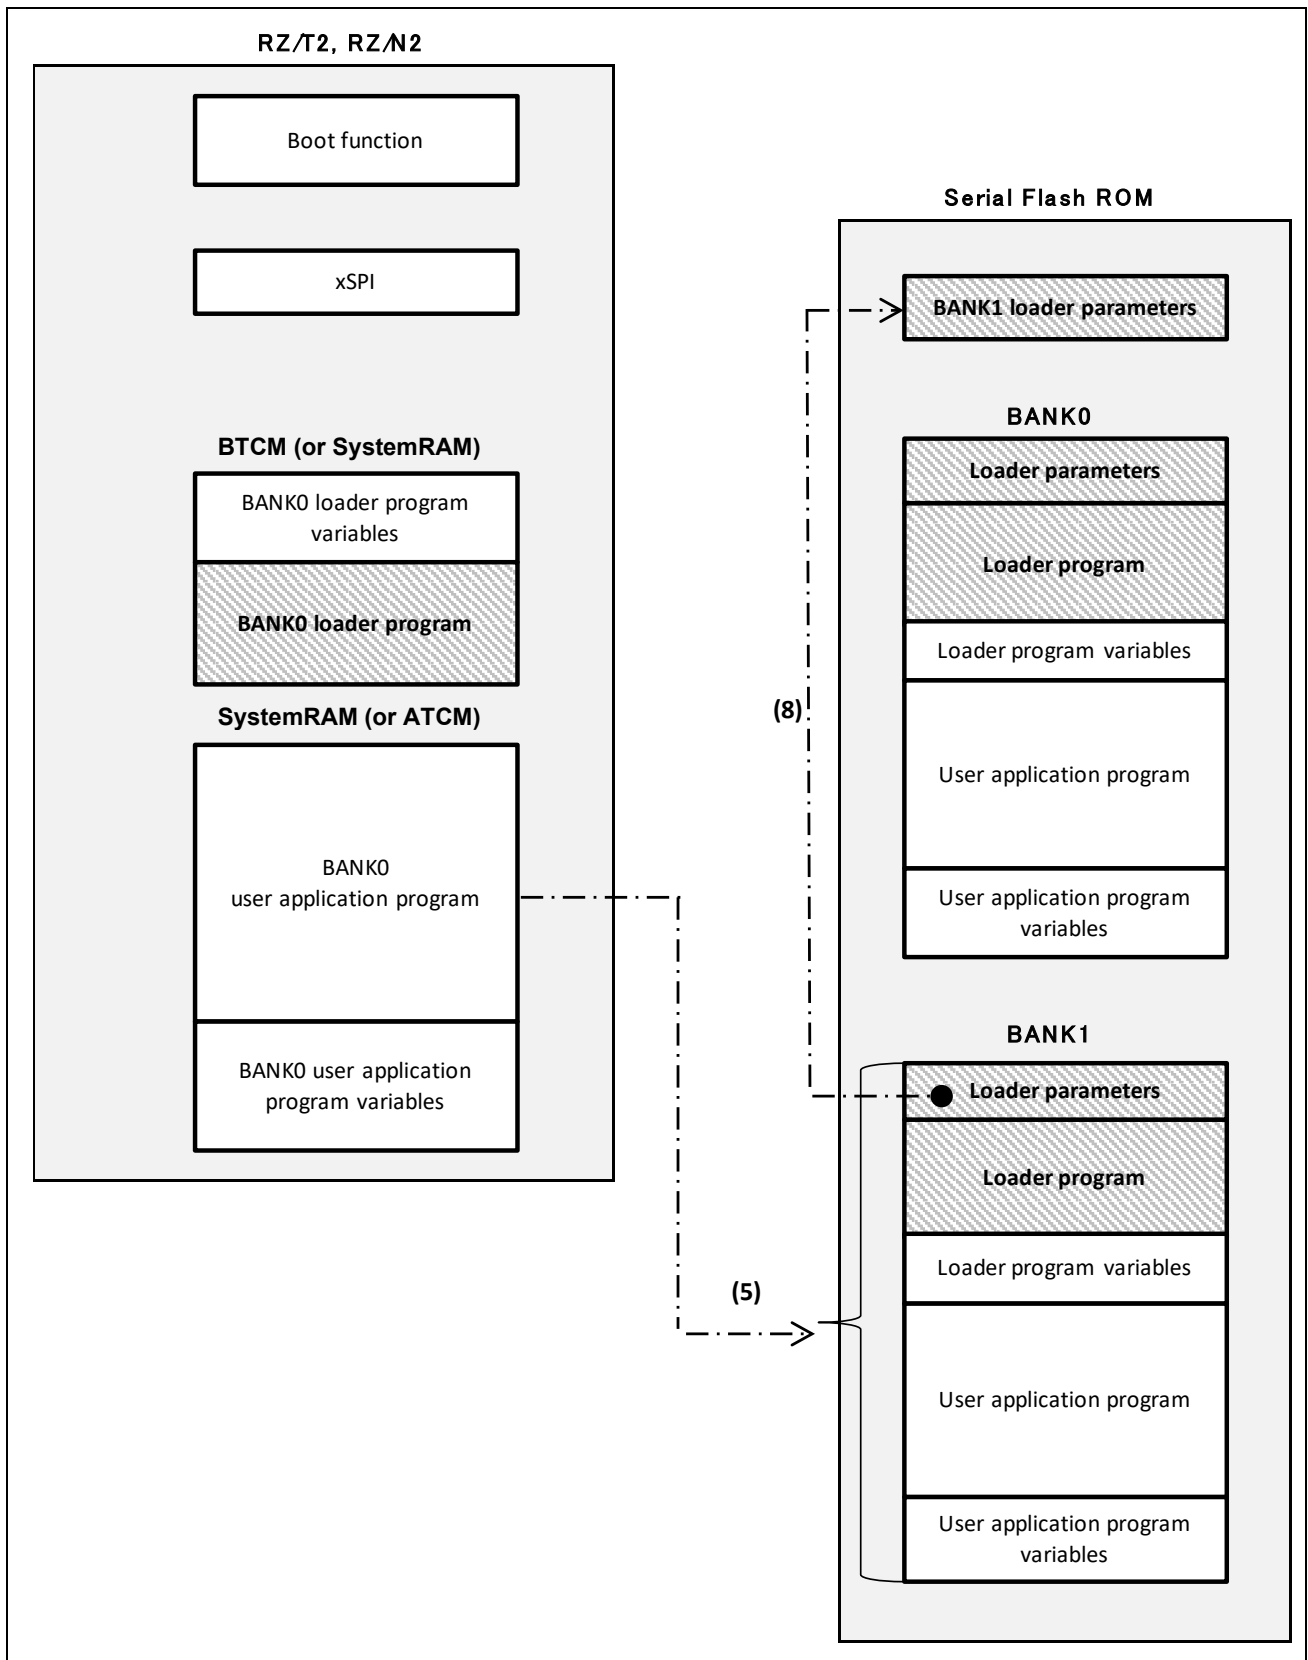

Figure 8.3 Operation for Updating Firmware in Bank 1
The following describes operation for updating the firmware by using the FoE while a user application program is running from the System RAM, with the procedure illustrated in **Figure 8.3**, Operation for Updating the Firmware in Bank 1.
- (1) The MainDevice sends the filename and password of the binary file for the updating firmware at the opening of the FoE, so check if the prefix of the filename and the password are correct. If they are correct, reception of binary data starts.
- (2) Erase the boot loader parameter area at the beginning of the serial flash ROM.
- (3) If the firmware update is interrupted for any reason, copy the BANK0 loader parameters to the boot loader parameter area so that the factory firmware can be started.
- (4) One sector (64 KB) is erased from the address where bank 1 starts. During erasure, the busy status indicator is returned so that the MainDevice does not reach the timeout time.
- (5) Data are received on completion of the erasure. The checksum attached to the received data is compared with the calculated. The data are stored in the reception buffer allocated for the storage of user application program variables in the System RAM. The data in the reception buffer are written to the serial flash ROM every time one page (256 bytes) of data is accumulated. An ACK packet is returned to the MainDevice.
On completion of writing one sector of data, erase the next sector (**Figure 8.3**-(5) in the figure).
- (6) Repeat step 3 until writing all receiving data ends.
- (7) Erase the boot loader parameter area at the start of the serial flash ROM.
- (8) Copy the bank 1 loader parameters to the boot loader parameter area (**Figure 8.3**-(8) in the figure).
- (9) Update the revision number in the SII memory to the revision number of the updating firmware.